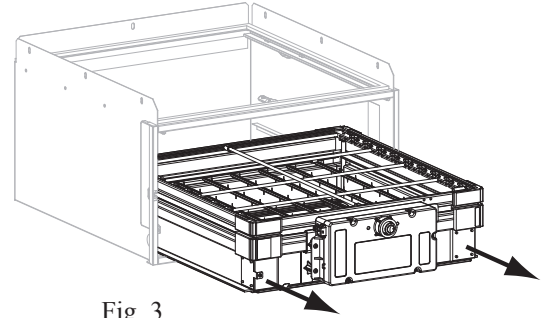

Fig. 3
- 3: Remove the filter and enhancement module from the air purifier cabinet (Fig. 3) and place on a flat surface in a well lit area.